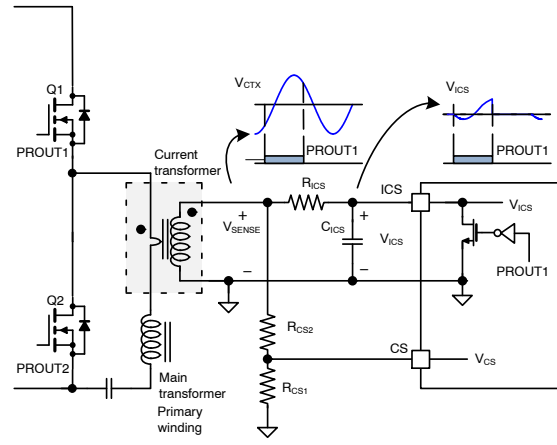
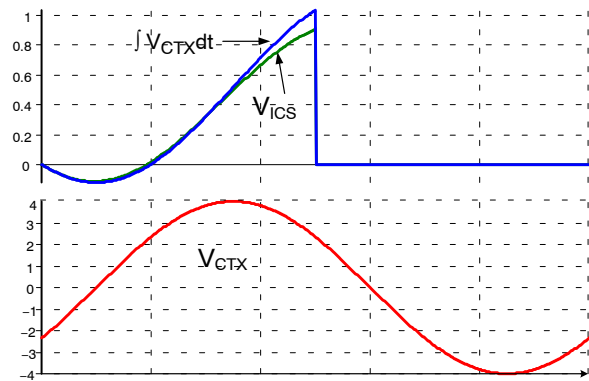
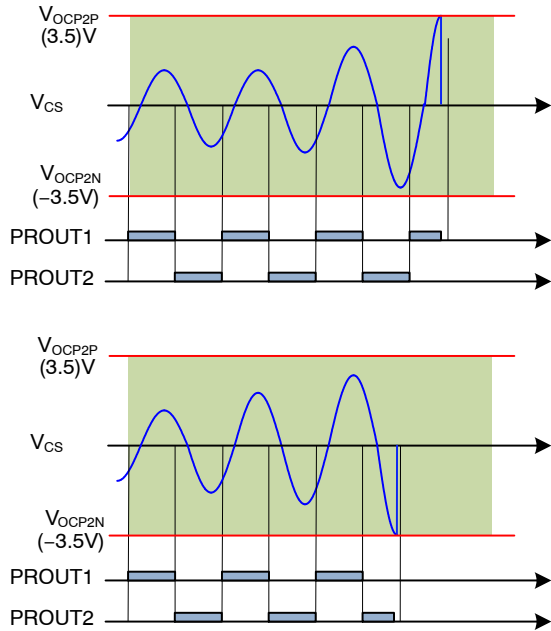

Figure 61. Current Sensing of NCV4390
Figure 62. Disable PWM mode with COMP Voltage
Figure 66. Over-Current Protection of the CS Pin
NCV4390 senses instantaneous switch current and the integral of the switch current as illustrated in Figure 61. Since NCV4390 is located in the secondary side, it is typical to use a current transformer for sensing the primary side current. While the PROUT1 is LOW, the ICS pin is clamped at 0 V with an internal reset MOSFET. Conversely, while PROUT1 is high, the ICS pin is not clamped and the integral capacitor (C_{ICS}) is charged and discharged by the voltage difference between the sensing resistor voltage (V_{SENSE}) and the ICS pin voltage. During normal operation, the voltage of the ICS pin is below 1.2 V since the power limit threshold is 1.2 V. The current sensing resistor and current transformer turns ratio should be designed such that the voltage across the current sensing resistor (V_{SENSE}) is greater than 4 V at the full load condition. Therefore the current charging and discharging C_{ICS} should be almost proportional to the voltage across the current sensing resistor (V_{SENSE}). Figure 62 compares the V_{ICS} signal and the ideal integral signal when the amplitude of V_{SENSE} is 4 V. As can be seen, there is about 10% error in the V_{ICS} signal compared to the ideal integral signal, which is acceptable for most designs. If more accuracy of the V_{ICS} is required, the amplitude of V_{SENSE} should be increased.
2. Over-Current Protection (OCP2): When V_{CS} is higher than 3.5 V or lower than -3.5 V, over-current protection (OCP2) is triggered. The instantaneous primary side current is also sensed on CS pin. Since the OCP2 thresholds on the CS pin are 3.5 V and -3.5 V as shown in Figure 66, the CS signal is typically obtained from V_{SENSE} by using a voltage divider as illustrated in Figure 61. 150 ns debounce time is also added for OCP2